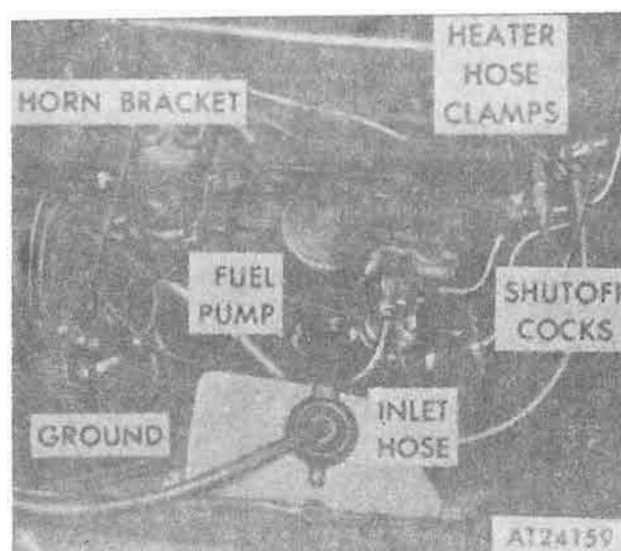

Figure 4-42. Disconnecting or connecting ground cable at horn, fuel pump line and heater hoses on M151A2, M825 and M718A1 vehicles.
(18) Remove screw, lockwasher and flat washer securing ground cable to horn mounting bracket (fig. 4-42).
(19) Disconnect inlet hose at fuel pump (fig. 4-42).
If heater assembly is installed to vehicle, loosen two clamps and disconnect two heater hoses at shut off cocks (cocks are near water pump at front right side of engine head) (fig. 4-42).